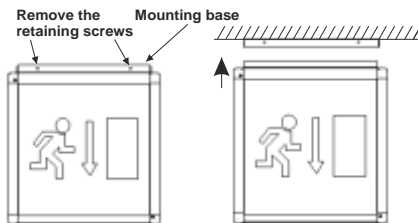

figure 1
1. Remove the mounting base by removing the 4 retaining screws (figure 1).